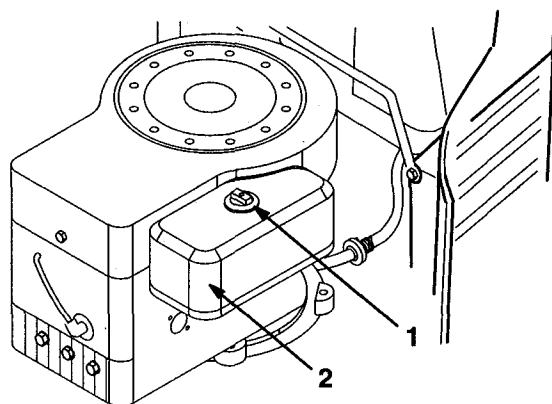

Figure 28
3. Clean around the air cleaner to prevent dirt from getting into the engine and causing damage. Unscrew the knob and remove the air cleaner cover (Fig. 28).
3. Install the air cleaner cover and knob (Fig. 28). Tighten the knob snugly.